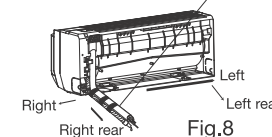

Fig.8
- Take out the piping from case, wrap the piping electric wire, water tape and pull them through the piping hole(As show in Fig.8)